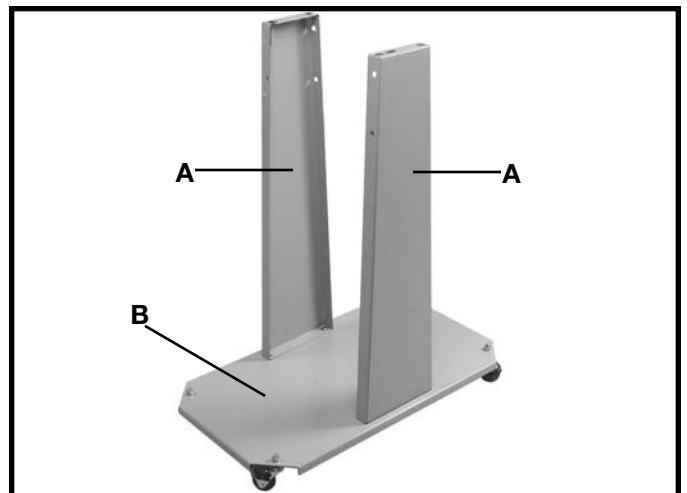

Fig. 7
7. Fig. 7 shows both side supports (A) attached to the base (B).